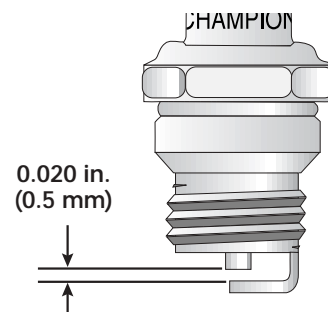

Fig. 27
3. Replace a cracked, fouled or dirty spark plug. Set the air gap at **0.020 inch (0.5 mm)** using a feeler gauge (Fig. 27).